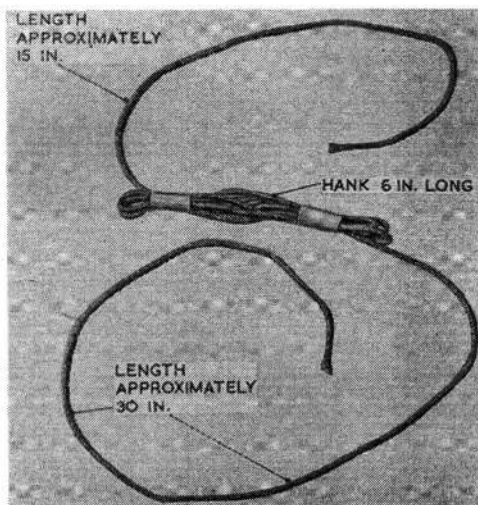

Fig. 1. Method of hanking the two lengths of 12 oz. kite cord
13. Form the two 7 ft. 6 in. lengths of 12 oz. kite cord into hanks (*fig. 1*); the hank is approximately 6 in. long and the two ends are about 15 in. and 30 in. respectively. Secure the shorter end of one hank to the webbing loop on the CO₂ cylinder operating head with a bowline knot and secure the shorter end of the other hank to the bow loop on the dinghy with a similar knot.